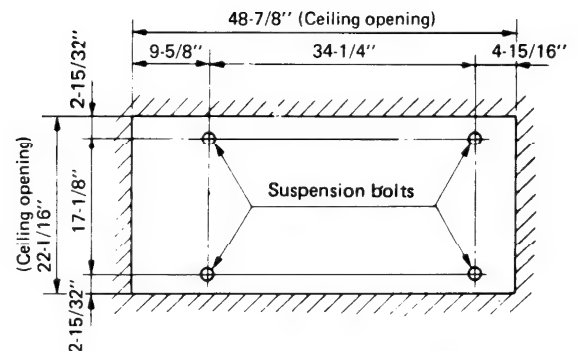

Fig. 6
a) Make an opening on the ceiling and determine the positions of the suspension bolt holes according to Fig. 6